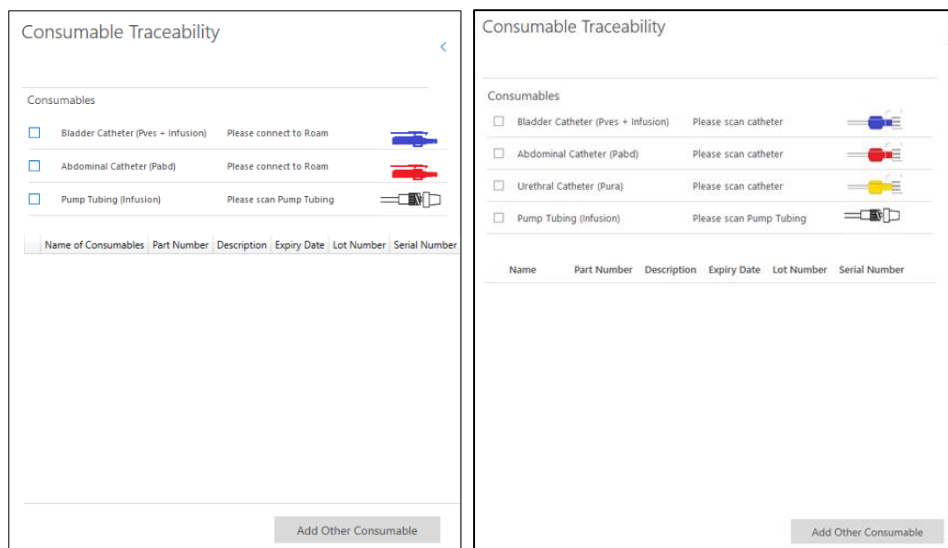

Figure 51: Consumable Traceability –Air-Charged and Fluid Catheters
- The user can do this by either scanning the SmartSense tag on the product using the registration systems embedded in the NXT Go Pump Hub and the PIM NXT for TDOC, or by manually entering the required information. Any information entered for the consumables will be displayed in the **Consumable Traceability** window (Figure 51).